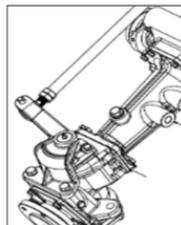

Fig.5.29
- Oil filling plug (A) is provided on right hand side of the front axle (as shown in fig.5.29).